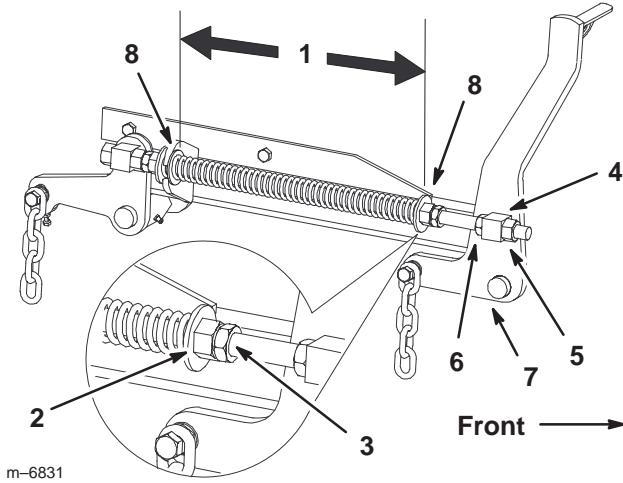

Figure 66
7. Loosen the front swivel jam nuts, at the front of the right and left swivels, approximately a 1/2 inch (13 mm) (Fig. 66).
8. Adjust the lift nuts on both the left and the right side of the machine to achieve **1/4 to 3/8 inch (6 to 10 mm) lower in front at A than in the rear at B** (Fig. 66).
2. Check the distance between the two large washers, it needs to be 10-1/2 inches (26.7 cm) (Fig. 66).
3. Adjust this distance, by loosening the spring jam nut and turning the nut in front of each spring (Fig. 66). Turning the nut clockwise will shorten the spring; counter-clockwise will lengthen the spring.
4. Lock the nut into position by tightening the spring jam nut (Fig. 66).